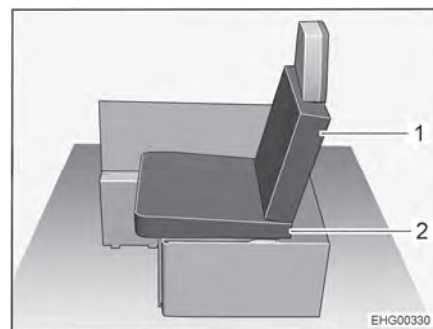

Fig. 22 After conversion
- Place one of the seat cushions of the left-hand divan as seat cushion (Fig. 22,2) on the bench seat. While doing so, pay attention to the wedged form of the seat cushion: the seat cushion must be slightly inclined toward the backrest (see Fig. 22).
- Attach one of the included additional cushions as back cushion (Fig. 22,1) to the backrest of the attachable seat.